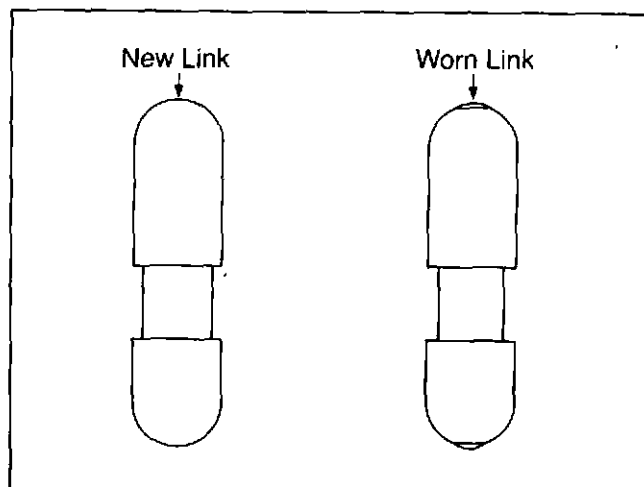

Fig. 3-14, (F60165). Plunger link wear
1. Replace the plunger link if worn excessively, Fig. 3-14. If the wear can be seen or felt, it is excessive.